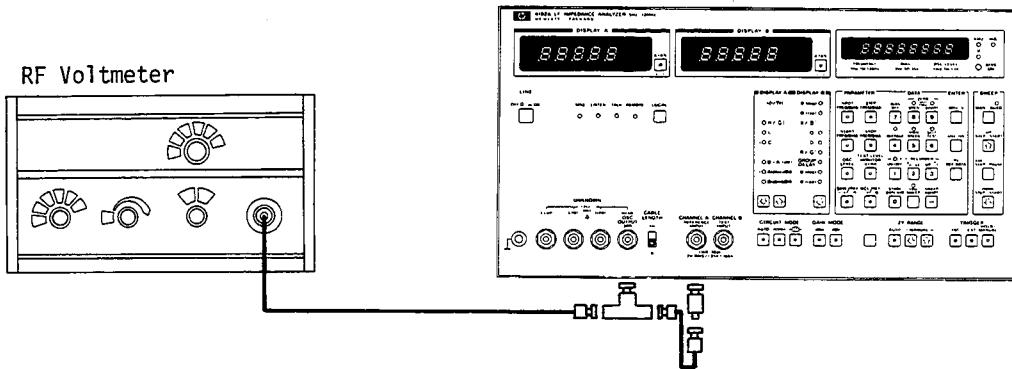

Figure 4-8. Absolute Amplitude Accuracy Test Setup.
- Connect the OSC OUTPUT ( $H_{CUR}$ ) terminal to both the 3403C Input and CHANNEL A (REFERENCE INPUT) as shown in Figure 4-8.